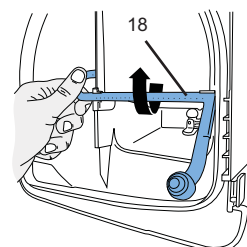

Fig. 11
- Turn rinse tube (18) backwards at curved side and take out (Fig 11).